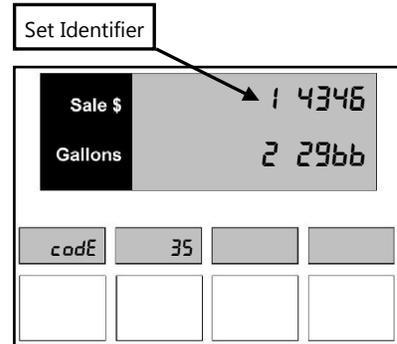

Figure 35.1 – Display 1
1. Press the number 3 and 5, then the **Mode** button on the keypad. The price display shows the dispenser is in Menu Code 35, and the current checksum will be shown in the main display, as shown in *Figure 35.1*.